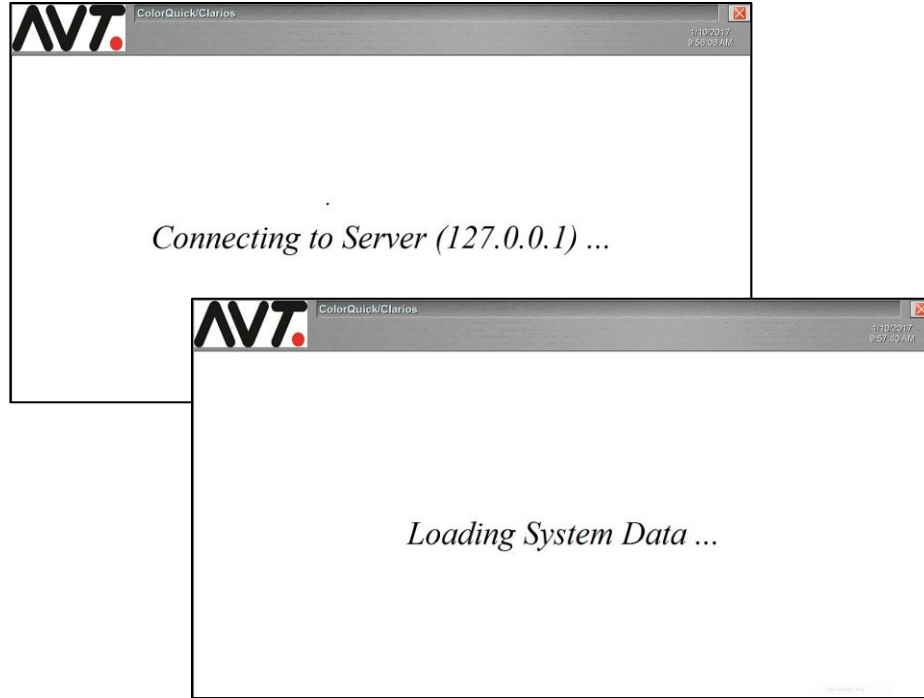

Figure 2.9: Connecting to Server and Loading System Data Messages
- 4 While the program loads, the “Connecting to Server” and “Loading System Configuration” messages display on the Clarios workstation monitor, as shown in Figure 2.9 below.